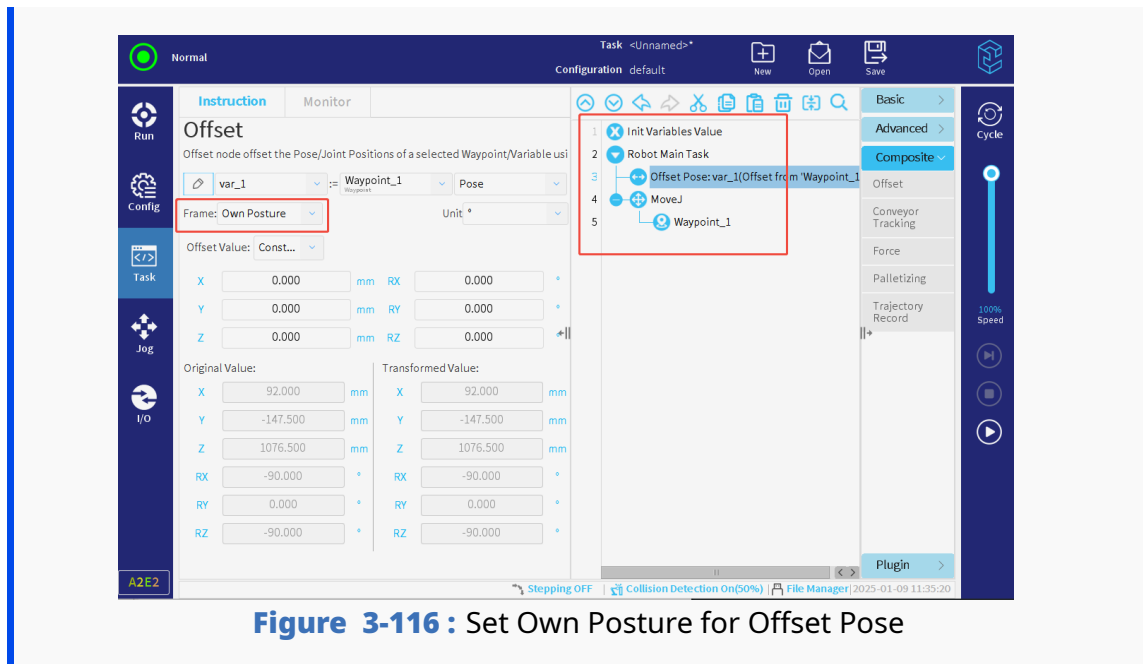

Figure 3-116 : Set Own Posture for Offset Pose
- Since this coordinate system is nearly same to the robot's real-time tool coordinate system at this time, it only needs to select "Own Posture", without restricting the location of the offset node. The program will directly perform offset operation according to the coordinate system of the preset or the actual pose, as shown in **Figure 3-116**.